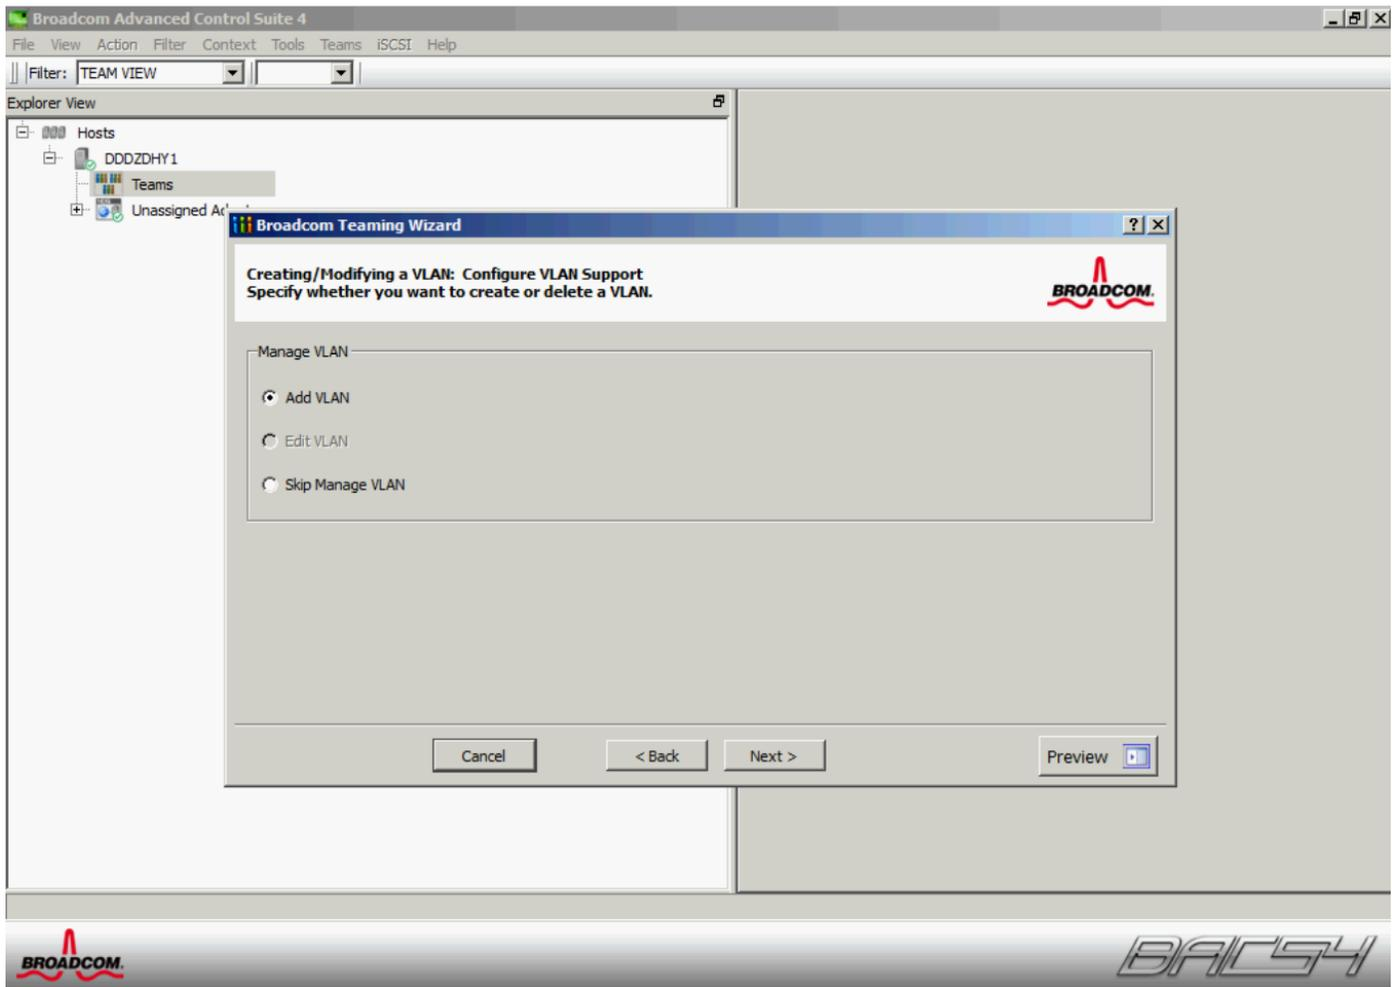

Figure 19 VLAN configuration on NIC team
13. Select the **Add VLAN** option (Figure 19) and click **Next**.